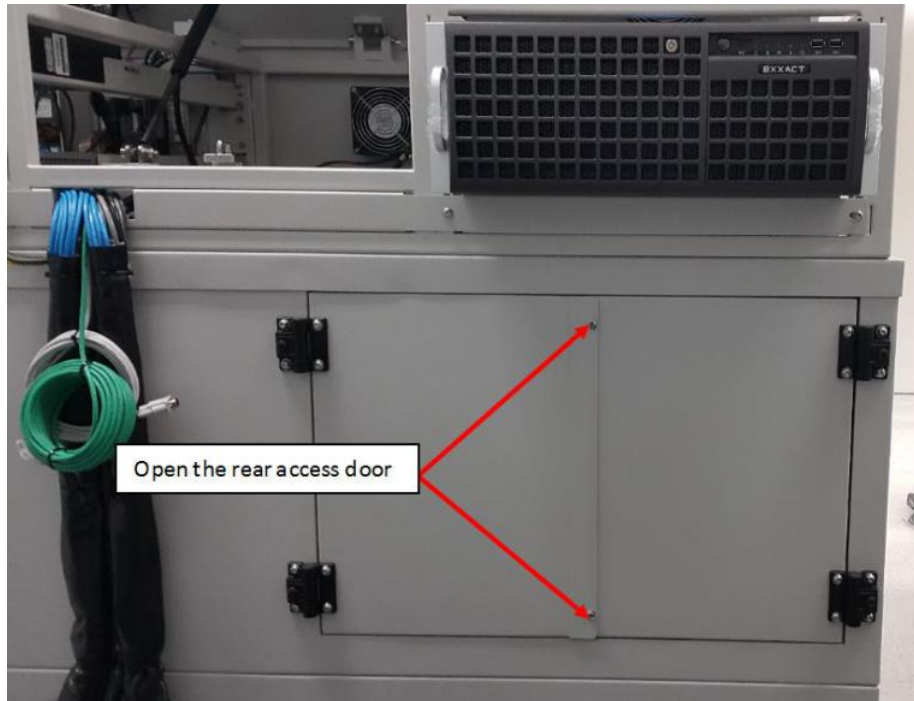

Figure 3 S2EX Rear Door
1. Open rear access door as Figure 3.